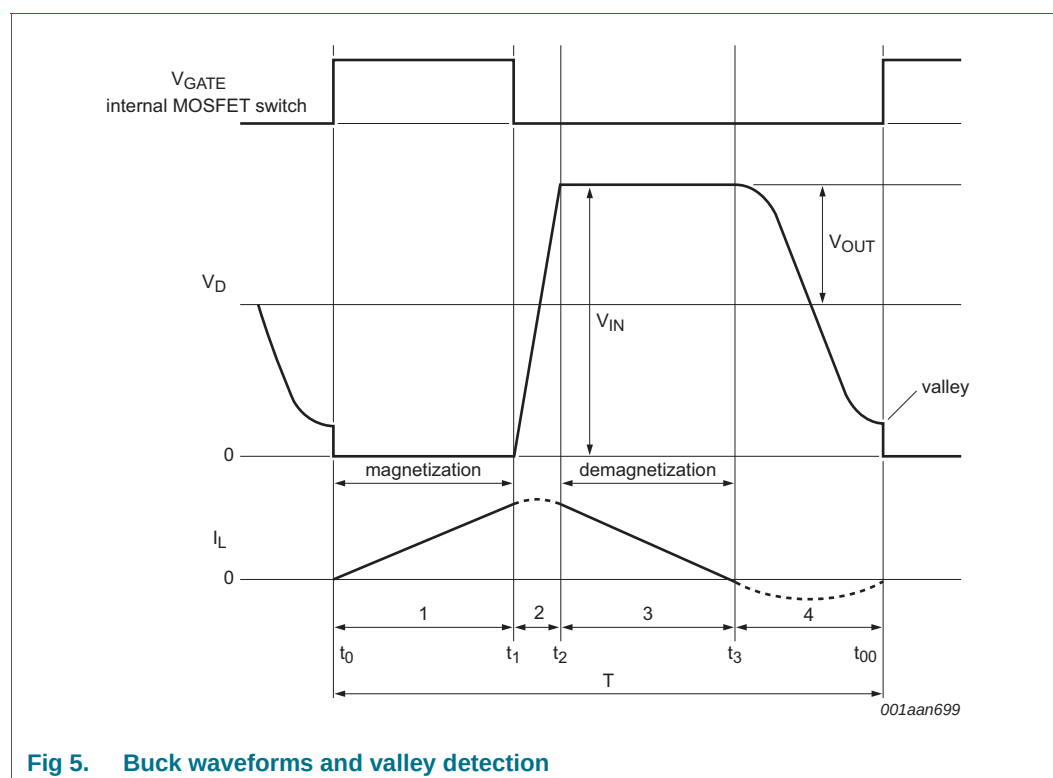

Fig 5. Buck waveforms and valley detection
The converter in the SSL2108X is a Boundary Conduction Mode (BCM), peak current controlled system. For the basic application diagram see Figure 4, for the waveforms see Figure 5. This converter type operates at the boundary between continuous and discontinuous mode. Energy is stored in inductor L each period that the switch is on. The inductor current I_L is zero when the internal MOSFET switch is switched on. Thereafter, the amplitude of the current build-up in L is proportional to $V_{IN} - V_{OUT}$ and the time that the internal MOSFET switch is on. When the internal MOSFET switch is switched off, the current continues to flow through the freewheel diode and the output capacitor. The current then falls at a rate proportional to the value of V_{OUT} . The LED current I_{LED} is almost equal to half the peak switch current. A new cycle is started, as soon as the inductor current I_L is zero.
A new cycle is started when the primary switch is switched on (see Figure 5). Following time t_1 , when the peak current is detected on the SOURCE pin, the switch is turned off and the secondary stroke starts (3). When the secondary stroke is complete and the coil current at t_3 equals zero, the drain voltage starts to oscillate around the $V_{IN} - V_{OUT}$ level. The amplitude equals V_{OUT} . A special feature, called valley detection is an integrated part of the SSL2108X circuitry. Dedicated built-in circuitry connected to the DRAIN pin, senses when the voltage on the drain of the switch has reached its lowest value. The next cycle is then started and as a result the capacitive switching losses are reduced. A valley is detected and accepted if both the frequency of the oscillations and the voltage swing are within the range specified (f_{ring} and $\Delta V_{vrec(min)}$) for detection. If a valid valley is not detected, the secondary stroke is continued until the maximum off-time ($t_{off(high)}$) is reached, then the next cycle is started.